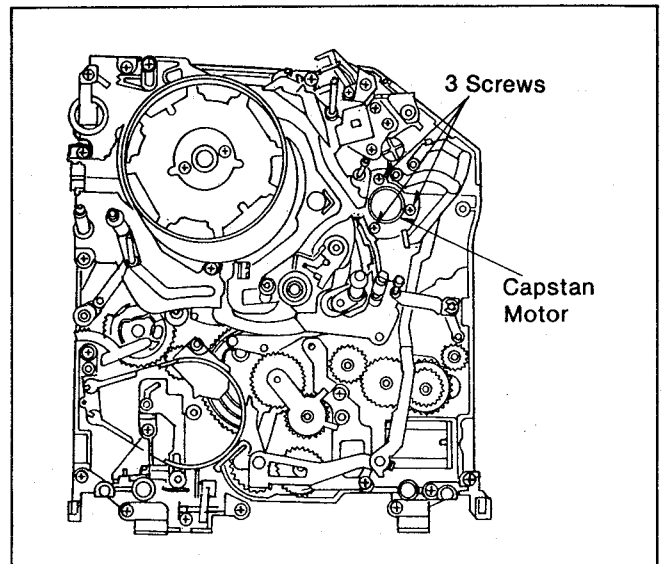

Fig. M40
- (3). Install the Capstan Motor and the tighten the 3 screws as shown Fig. M40.